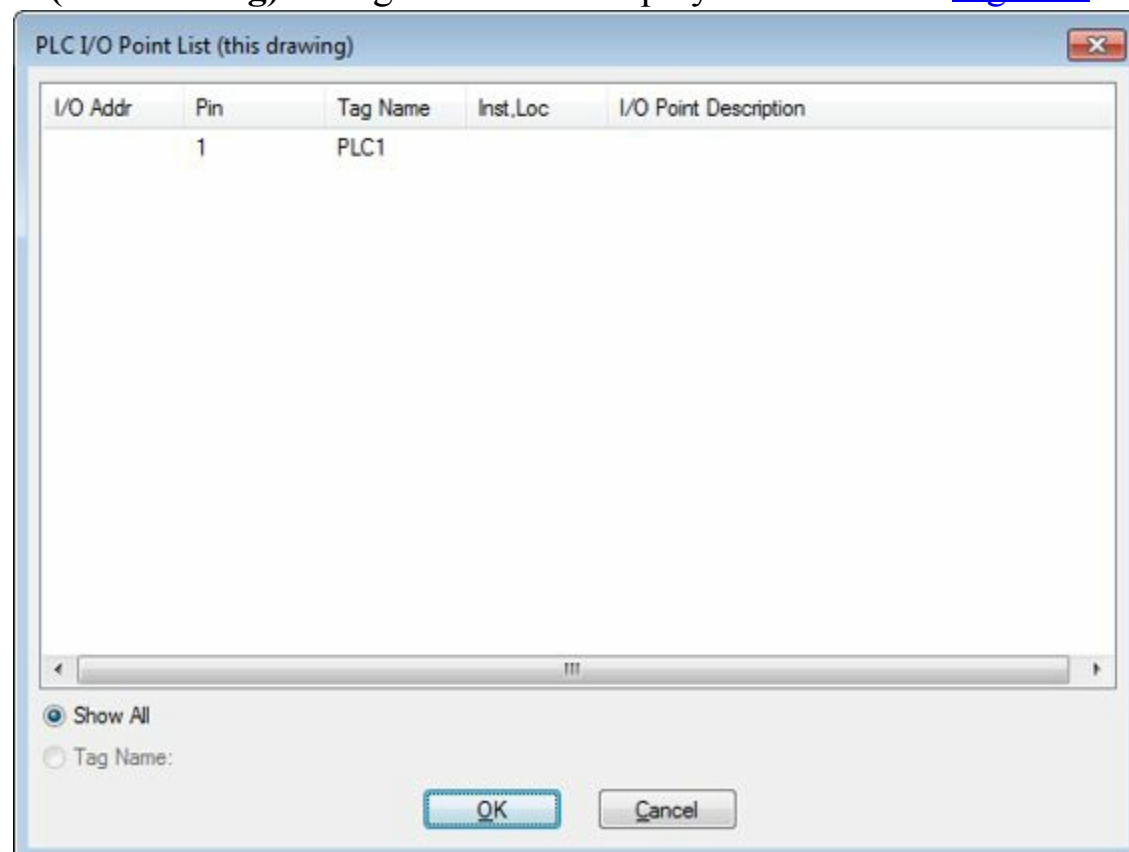

Figure-6. PLC IO Point List dialog box
- Click on the **Drawing** button to display all the PLC connections available. The **PLC I/O Point List (this drawing)** dialog box will be displayed as shown in Figure-6.